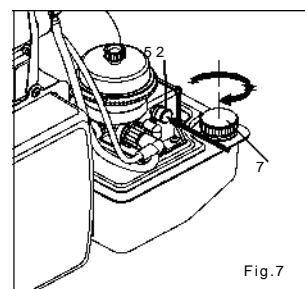

Fig.7
6) After filling, tighten gasoline cap (7) firmly by hand. Push stop
button (52) of gasoline control fully to stop position. (Fig. 7)6